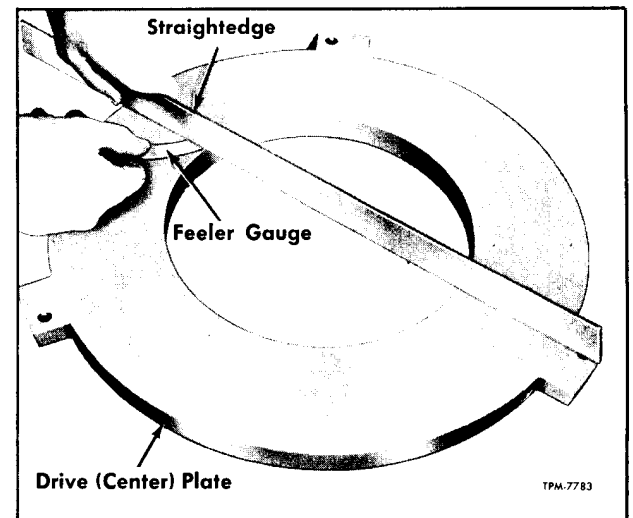
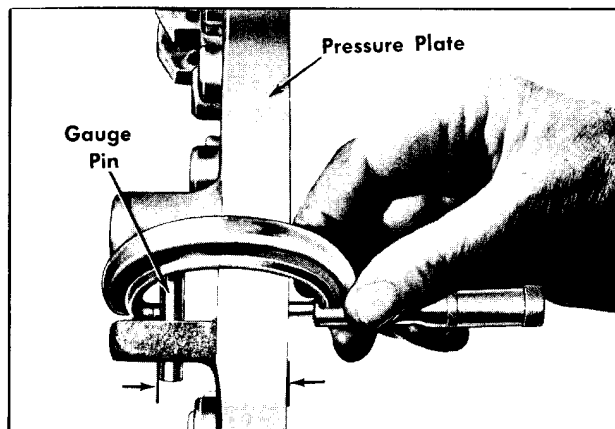

Figure 14—Checking Center Plate For Flatness
Figure 15—Measuring Pressure Plate Thickness
3. Inspect pressure plate, center plate, and flywheel plate for checks and scores on contact surface. For refacing of pressure plate, see "Pressure Plate and Flywheel Clutch Plate Repair" under "Repair" later in this section. Check fit of center plate drive lugs in flywheel slots. Dimensions for parts are given in "Specifications" at end of this section. Check surfaces at pressure plate, center plate, and flywheel plate for warpage using straightedge and feeler as shown in figure 14.
The clutch pressure plate, center plate, or flywheel plate may be refaced by grinding to produce a flat smooth surface. Do not reface parts which are severely heat checked or scored, or if warped in excess of 0.015 inch (fig. 14). If necessary to grind off more than 1/32 inch from pressure plate or flywheel plate to clean up friction surface, new parts should be used at assembly. Before repair of plates is attempted, measure each plate and compare dimensions with new dimensions as listed in "Specifications" at end of this section. Figure 15 shows use of micrometer to check pressure plate thickness. This is necessary to determine if plates have previously been resurfaced.
New Pressure Plate Thickness (Friction Surface to Pin—Fig. 15)	1.739"-1.750"